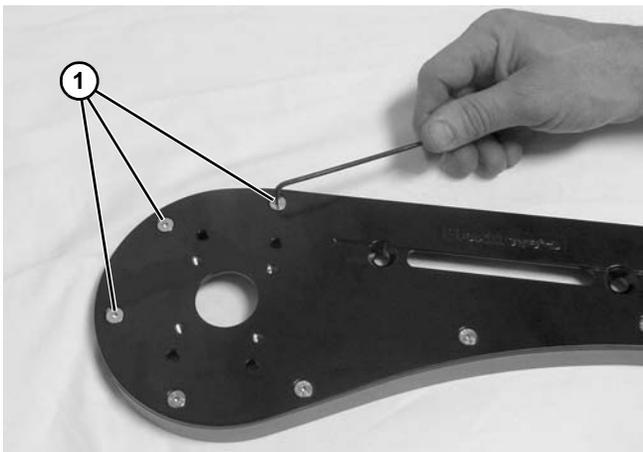

Figure 134
4. Remove three socket head screws (Figure 134, item 1).